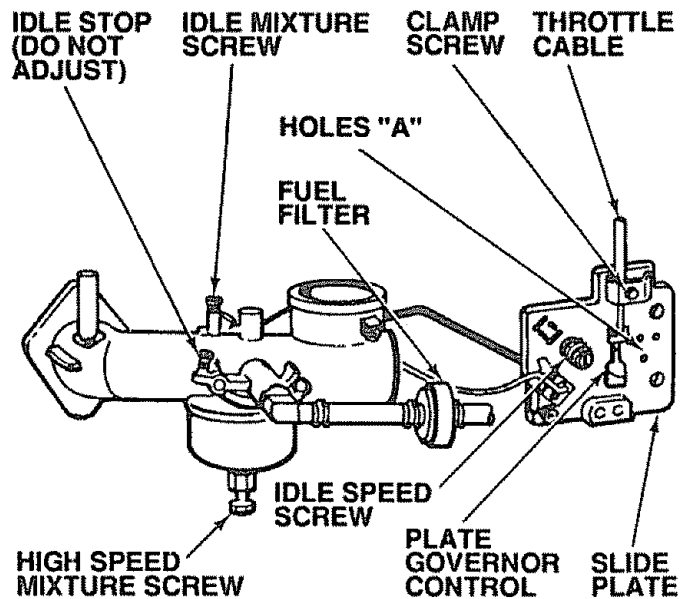

FIGURE 20
- Loosen clamp screw (Fig. 20). Adjust throttle cable until holes "A" are aligned in governor control plate and side plate.
- b. Loosen clamp screw (Fig. 20). Adjust throttle cable until holes "A" are aligned in governor control plate and side plate.
- a. With engine off turn high speed mixture screw clockwise (↻) closing finger tight ONLY, and turn counterclockwise 1-1/2 turns (Fig. 20).
- b. Turn idle mixture screw clockwise (↻) closing finger tight only, and turn counterclockwise (↺) 1-1/2 turns (Fig. 20).
- a. With engine cool, remove filter and plug fuel line sections that were removed from both ends of fuel filter (Fig. 20).